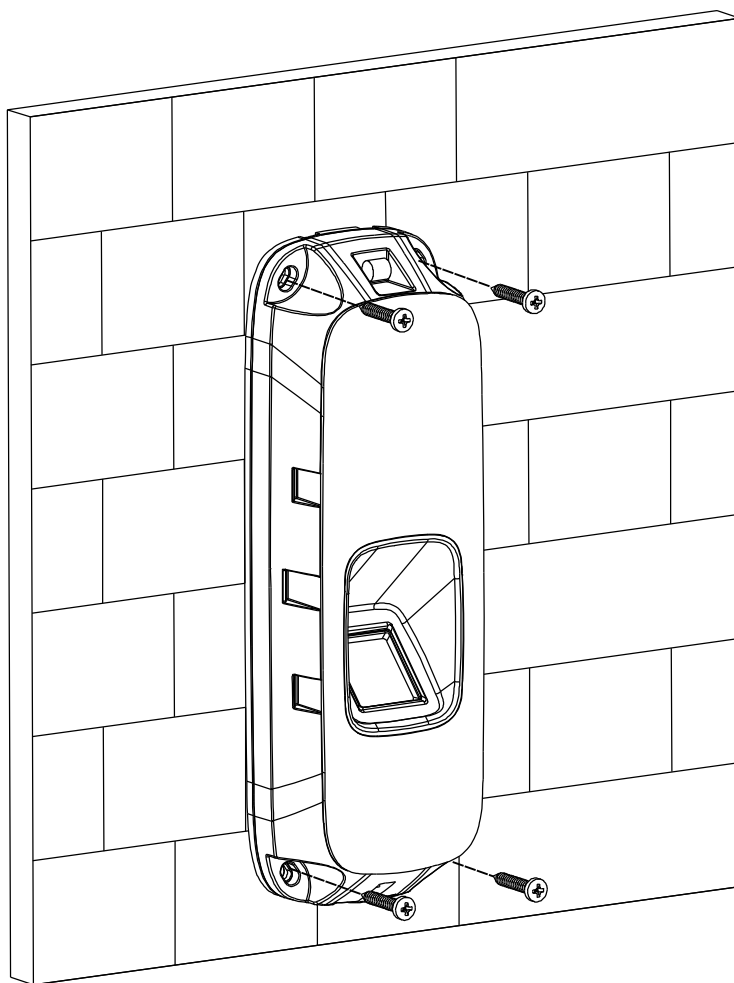

Figure 3- 1
Step 1. Remove front cover, fix the device on wall via screw 1. See Figure 3- 1.
Step 2. Put back front cover. Fix cover on the device via screw 2. See Figure 3- 2.